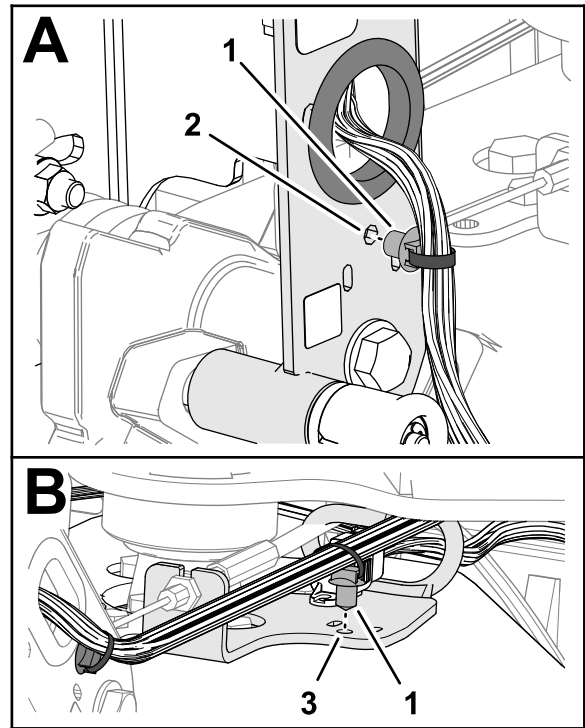

**Figure 9**
2. Plug the 12-pin connector of the machine harness into the 12-socket connector of the handlebar wire harness (Figure 9).